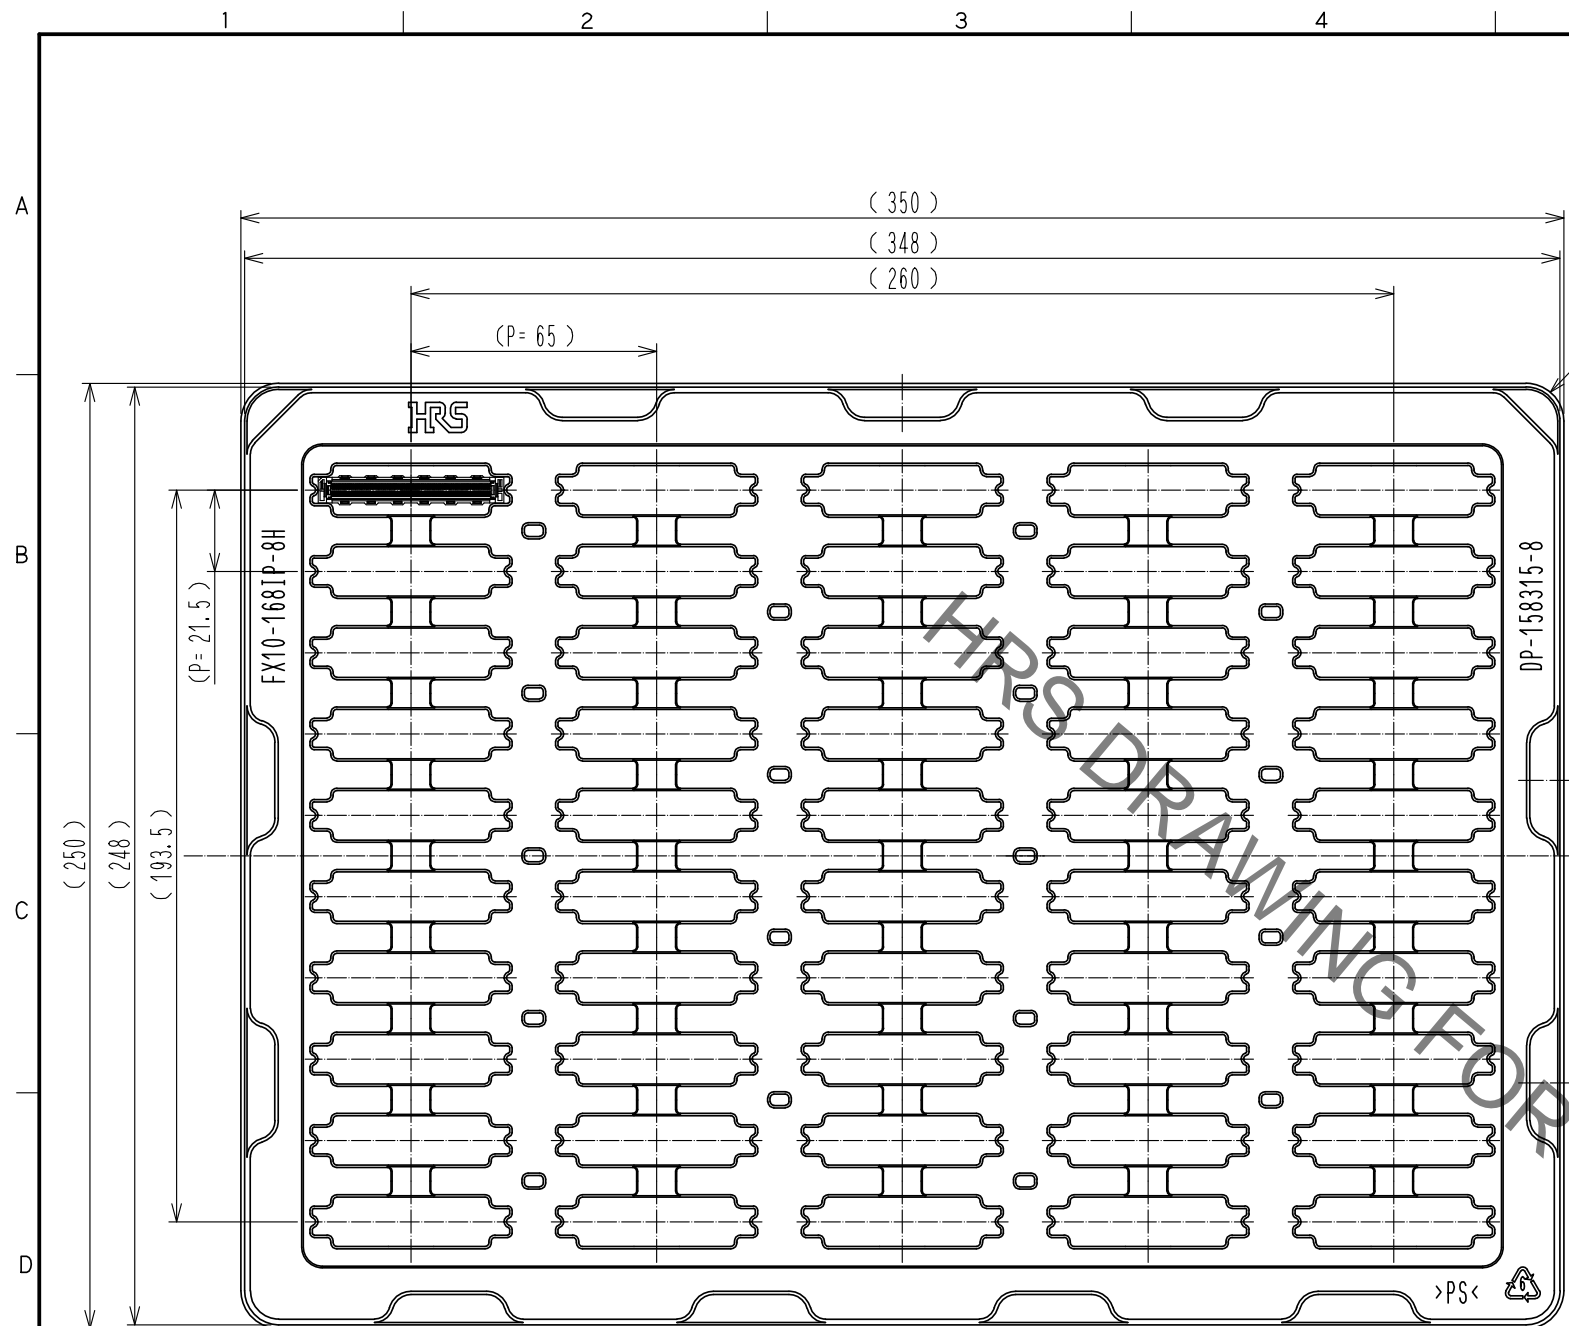

Fig.3 Drawing for packing (1:2) 6
- ◁ 6 50pcs of this product are packed in soft tray. See Fig.3 for details.